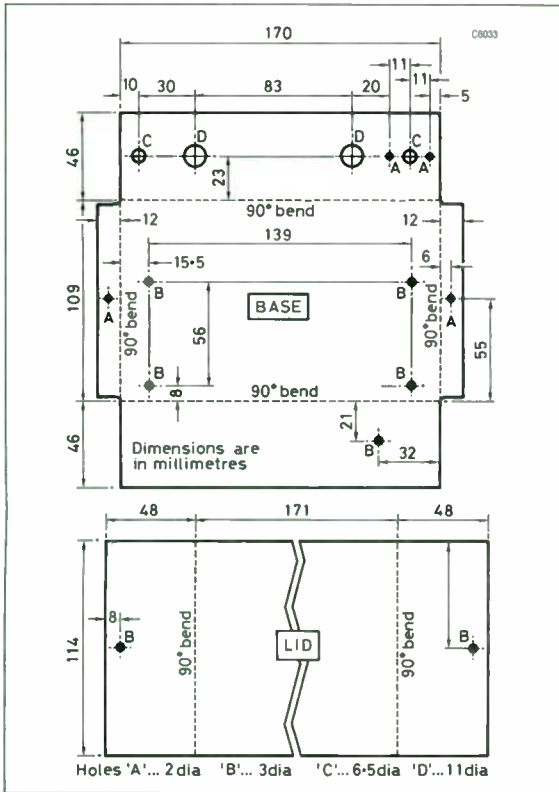

Fig 4.23. Dimensions of the aluminium case
6. Solder lengths of PVC-covered connecting cable (referred to as 'flying leads') at points A to G. You will of course need to bare the end of each cable first using wire cutters. Employ logical colour codes – ie red for positive (C), black for negative (D) and perhaps green for ground (B and F). The flying leads will be excessively long at this stage but they can be cropped later.
7. Fig 4.23 features plans of the case lid and base. This should be fabricated in 18 gauge aluminium sheet and the outside spray painted to match the RC14. This item is supplied pre-drilled and painted with the kit.